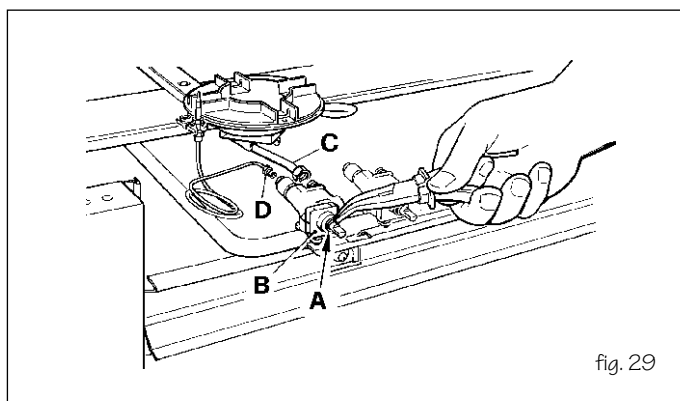

fig. 29
- Take the burners apart as shown in Fig. 29.
- Remove the ignition switch "B" (Fig. 29) - if fitted - after removing clip "A"